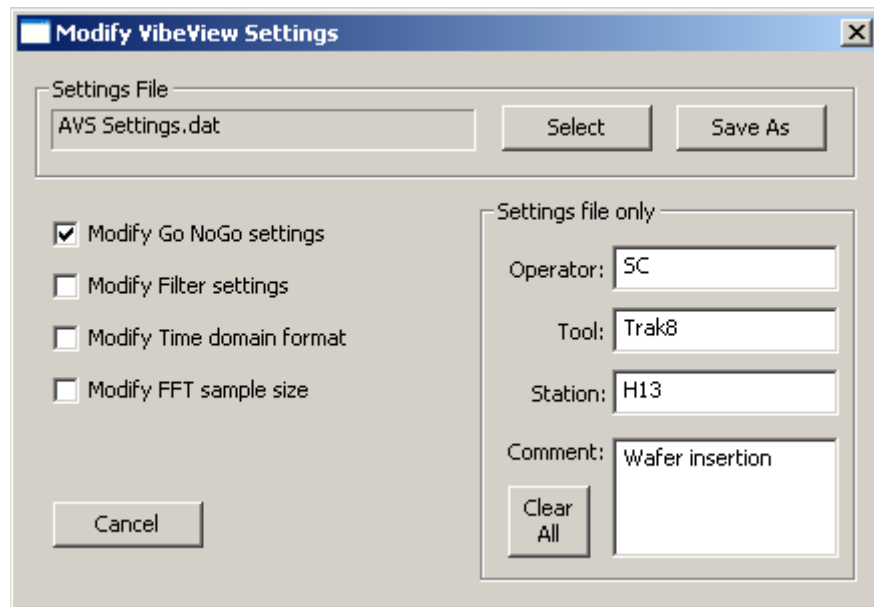

Figure 4.13: Modify VibeView Settings Dialog
2. Choose the menu item **Settings > Modify VibeView Settings**. The Modify VibeView Settings dialog is displayed (see Figure 4.13).